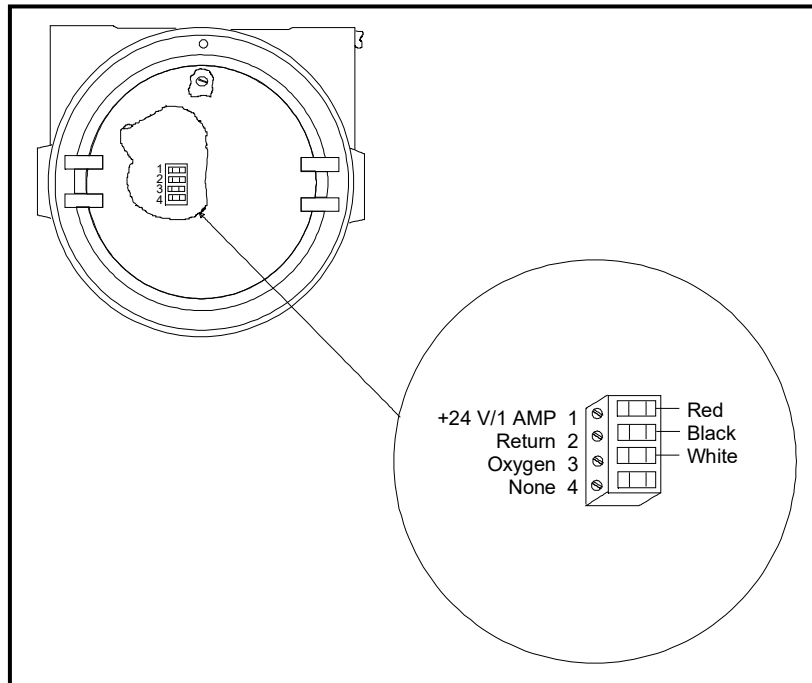

Figure 6: Wiring Connections to TB1 Block
2. Unplug TB1 on the TMO2-TC transmitter PC board (PCB) by carefully pulling it directly up without bending the pins attached to the PCB. See *Figure 6* on page 11.